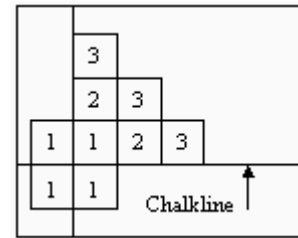

Figure 2
4. Use the chalklines as a guide for lining up the edges of the modules. Using the pyramiding technique, install one quadrant at a time, following the numerical sequence as shown in Figure 2 below.